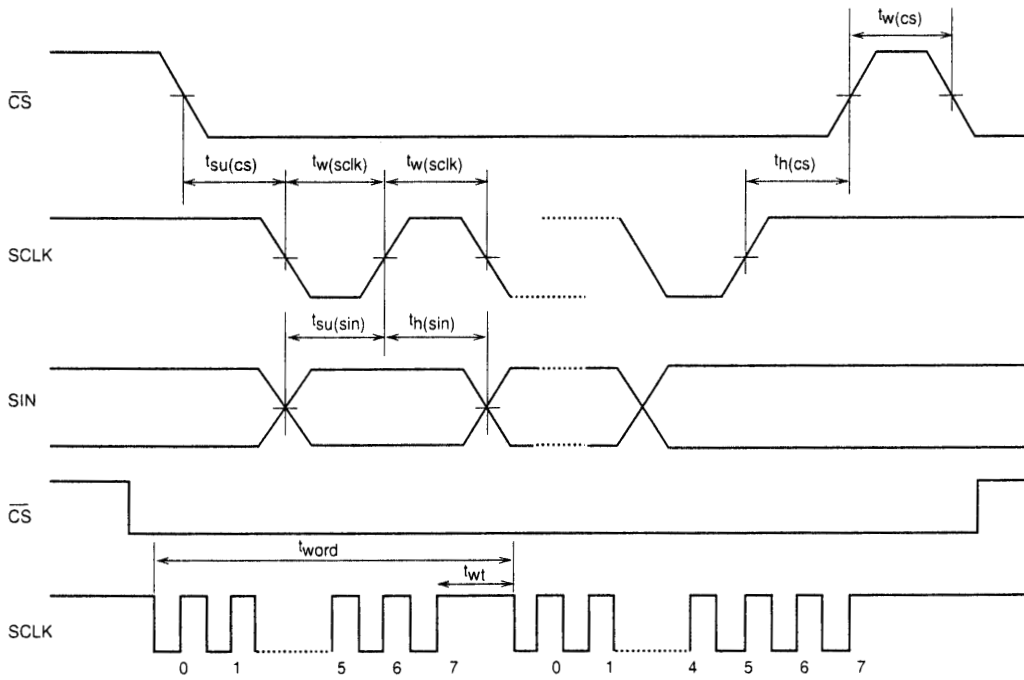

Figure 1 Serial Data Input Timing
**[Write] (Refer to Figure 1) at  $T_a = -30$  to  $+70^\circ\text{C}$ ,  $V_{DD1} = 5 \pm 0.5\text{ V}$**